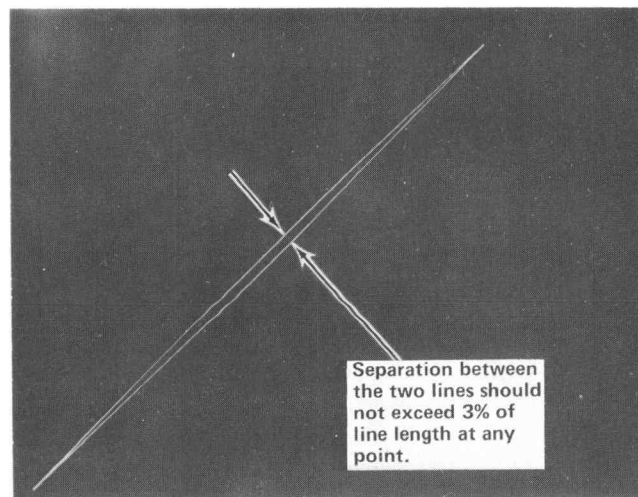

Fig. 4-14. Vector dynamic geometry illustration.
e. Check that the separation between the two lines does not exceed 3% of line length (approximately 0.25 inch) at any point. See Fig. 4-14.